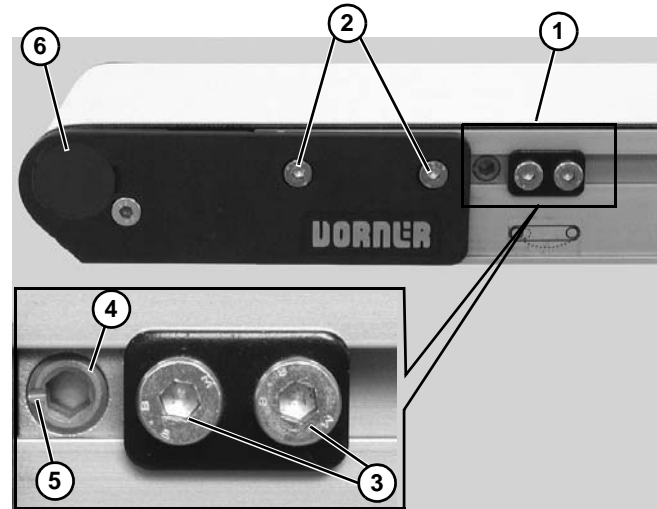

Figure 44
Non V-guided belt conveyors are equipped with belt tracking cam assemblies (**Figure 44, item 1**) for belt tracking adjustment.
- Ensure head plate fastening screws (**Figure 44, item 2**) on both sides of conveyor are tightened.
- On both sides of conveyor, loosen two (2) cam fastening screws (**Figure 44, item 3**). Adjust cams (**Figure 44, item 4**) until indicator slots (**Figure 44, item 5**) are horizontal and facing end of conveyor. Then slide cam assemblies against head plates (**Figure 44, item 6**) and re-tighten cam fastening screws (**Figure 44, item 3**) to 60 in-lb (7 Nm).
- On the side toward which the belt is tracking, loosen head plate fastening screws (**Figure 44, item 2**).
- With the conveyor running, use a 5 mm hex-key wrench to rotate the tracking cam (**Figure 44, item 4**) in small increments until the belt tracks in the center of the conveyor. Then while holding the cam in position, re-tighten the head plate fastening screws (**Figure 44, item 2**) with a 4 mm hex-key wrench to 60 in-lb (7 Nm).